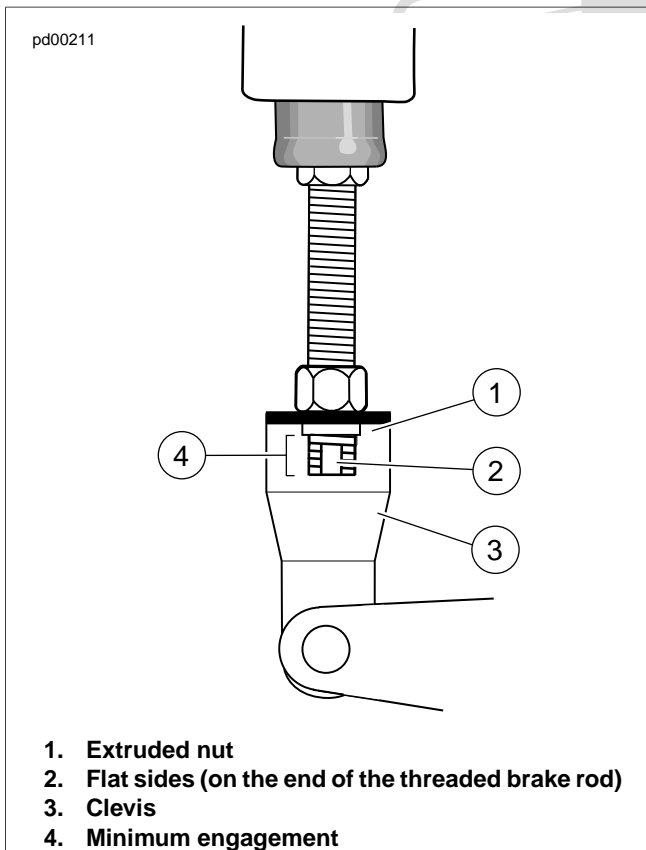

Figure 1-13. Critical Measurements with Brake Pedal
- See Figure 1-13. On the very end of the threaded brake rod, are two flat sides (2). To verify proper thread engagement with the clevis (3), the flat sides must extend below the extruded nut (1) in the clevis by at least one full thread. This is the rod minimum engagement (4).